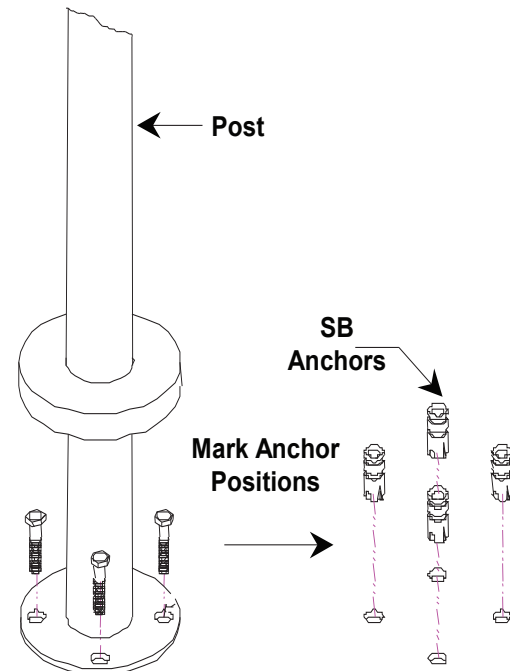

FIGURE 3 – SB Anchors
6. Turn the **Post** so that the **Railing Outlets**, if any, are positioned in the desired direction(s) and mark the positions of the four outer **SB Anchor** holes located on the **Post Flange** (See **FIGURE 3**). Unscrew the center shaft from the **SA Anchor** and remove the Post, leaving the SA Anchor in the hole.
8. Place an **SB Anchor**, thread side down, into each hole. Make sure that the top of the anchor is flush with the floor (See **FIGURE 3**).